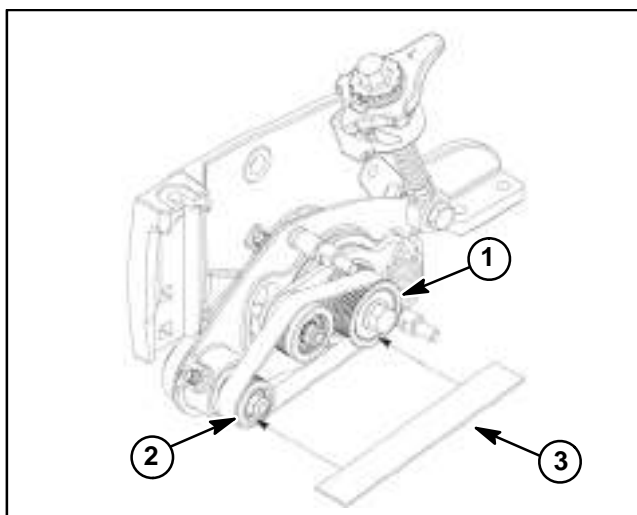

Figure 7
I. Check pulley alignment by laying a straight edge along the outer face of the drive pulley (Fig. 7). Drive and driven pulleys should be in line within 0.030" (0.76 mm). If necessary, align pulleys by removing driven pulley and installing or removing washer(s) (item 3) between pulley and pulley spacer.